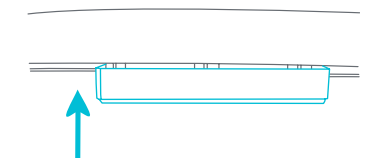

Fig. 13b
- **REATTACH:** Push the stopper into the housing completely (Fig. 13b). Ensure to apply enough pressure when inserting the stoppers.